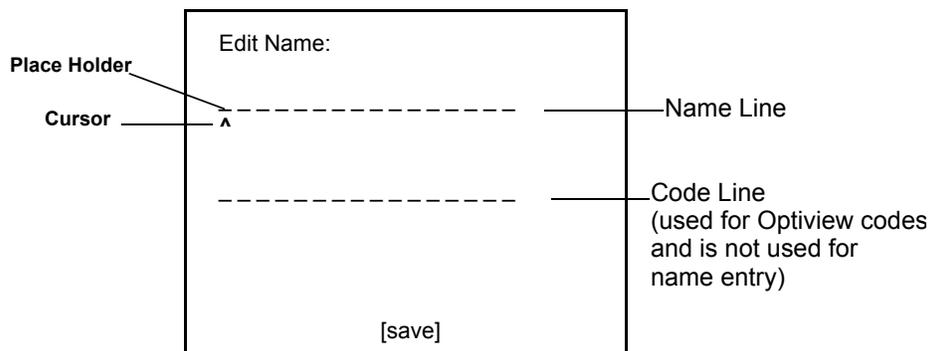

Figure 3-1. Name Entry Screen
4. At the Name Entry screen, there are 16 place holders on the name line to use to name the measurement. Possible values for each character is **0** through **9**, **A** through **Z** (all caps), and blank. See Figure 3-1.